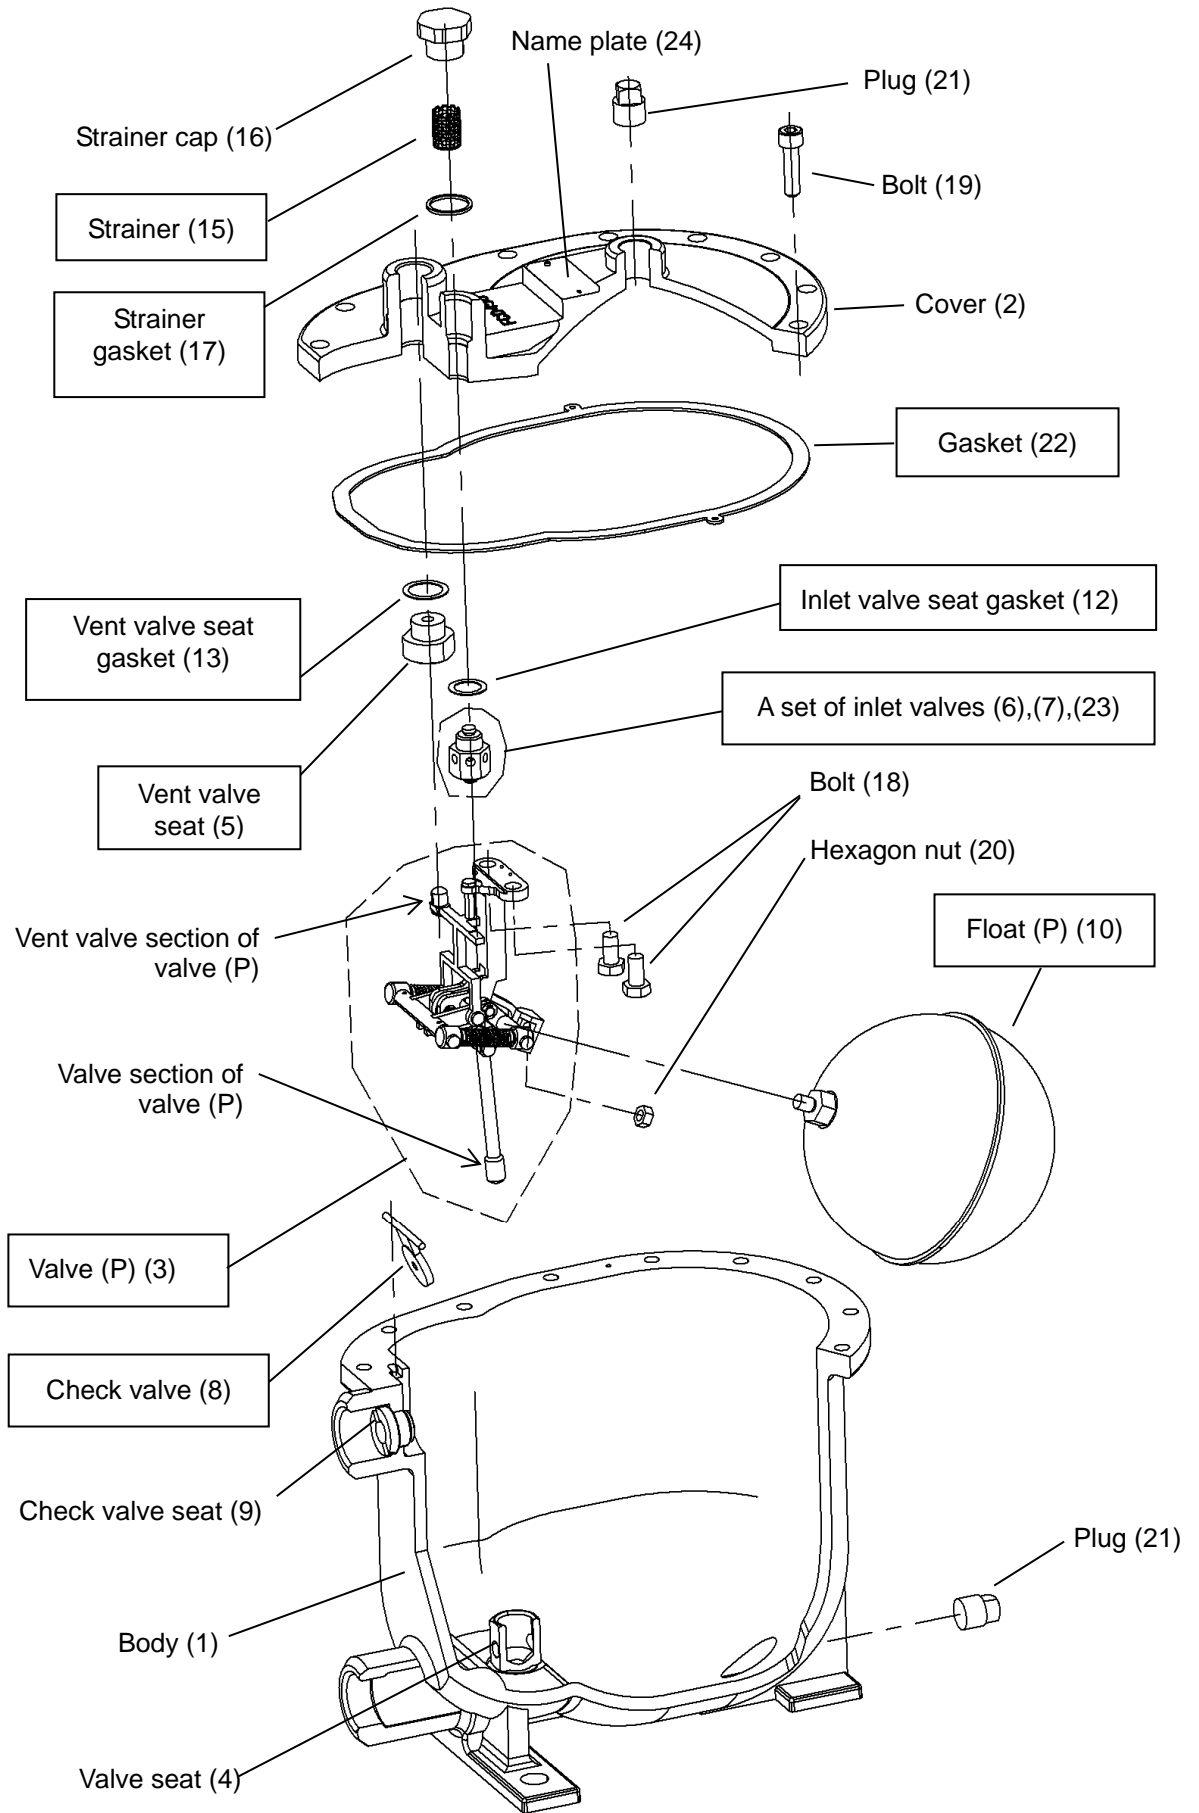

Fig. 11
(2) Do not drop parts during disassembly. Put disassembled parts on soft cloth to prevent damages.
(3) Use regular parts for replacement. Never remodel the product.
(4) Do not reuse old parts.
9.4 Troubleshooting (See Fig. 7 for the symbols and numbers of the check valve. See Fig. 11 for the circled numbers.)
9.5.2 Disassembly procedure (See Fig. 11.)
9.5.3 Assembly procedure (See Fig. 11.)